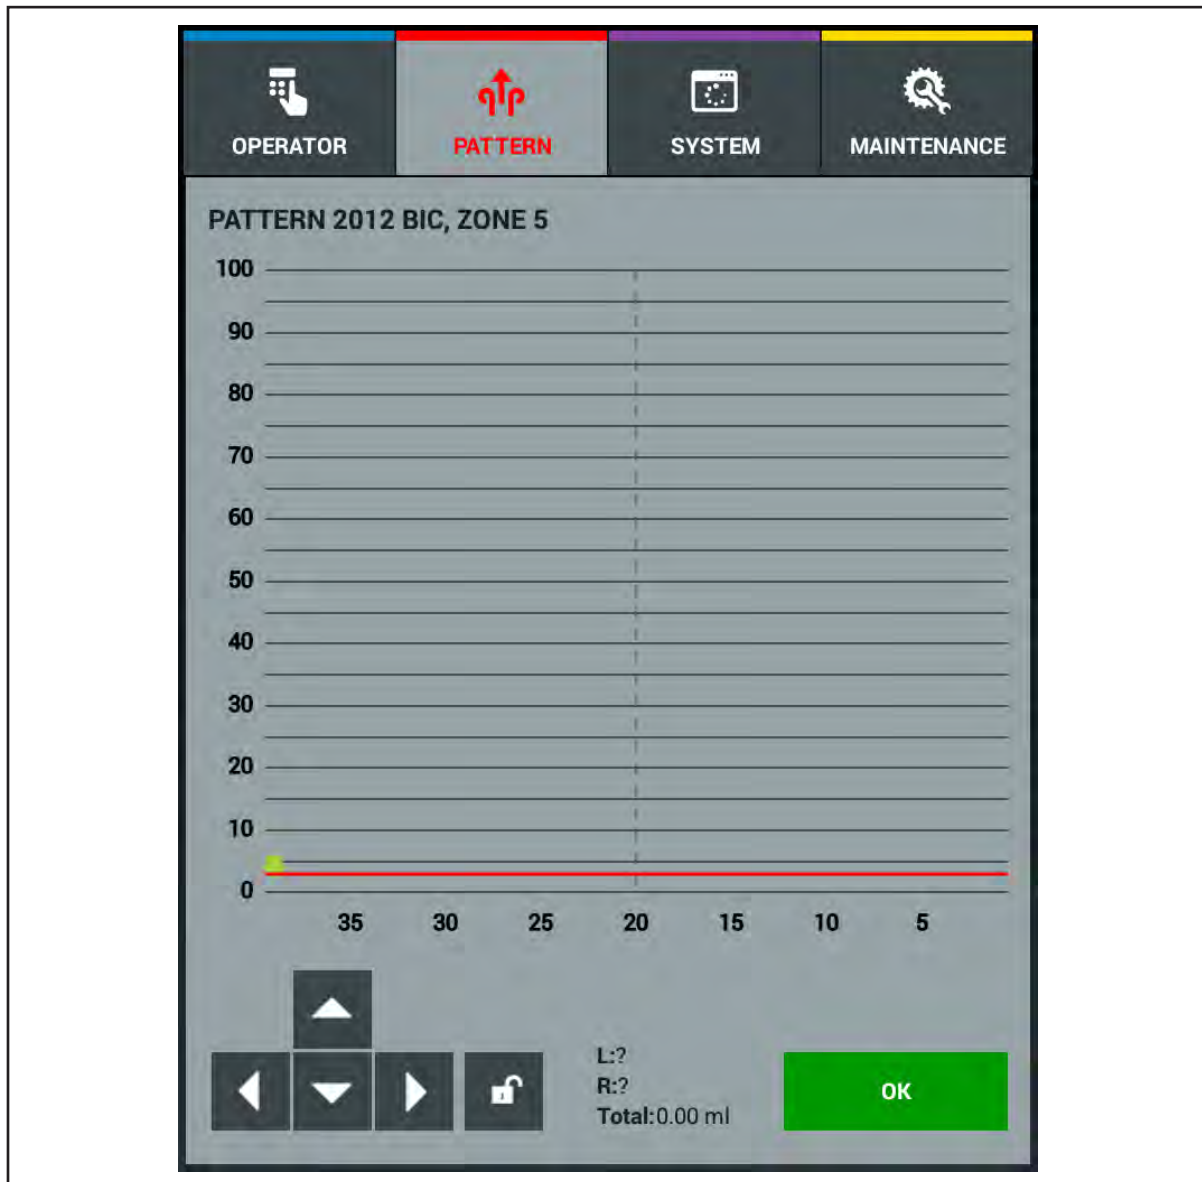

Figure 8-4. Oil Levels Buff Zone
The oil levels screen allows you to create the shape and levels of the conditioner pattern in units of oil. Minimum and maximum levels range from 0 to 100 units. To create the proper lengthwise taper of a pattern, oil levels, from zone to zone, should decrease between 15% and 30%. This is the same for sport and recreational patterns. The percent decrease from zone to zone depends on the starting oil level in the first zone. If the first zone conditioner level is lower (60 units or less) the percentage decrease in the following zones will be smaller and if the first zone conditioner level is higher (above 60 units), the percentage of decrease is higher. The last zone or buff zone should have 1 to 3 units set in the oil level screen on at least one board. This allows the machine to buff the remaining zone of the pattern, in both directions, without injecting conditioner and enhance the lengthwise taper. Set all boards for zero (0) and the machine will buff the last zone in the forward direction of travel only. This increases the lengthwise taper even more. Refer to *Figure 8-4*.